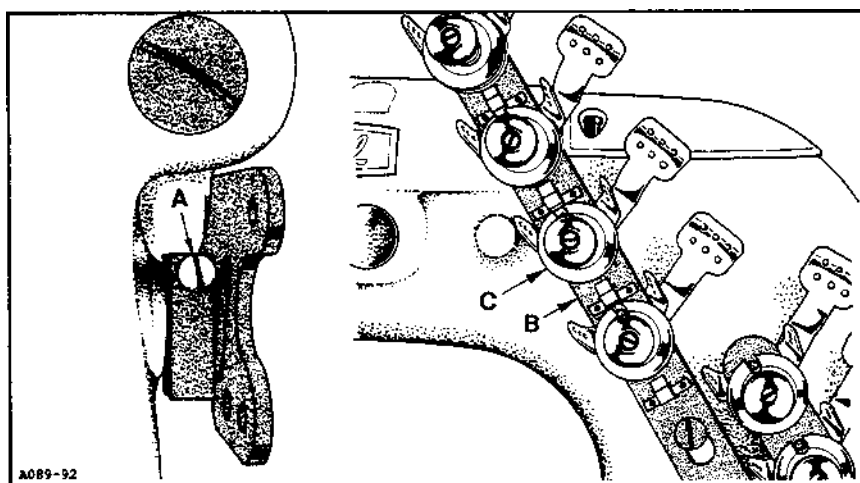

Fig. 14
Loosen screw (A, Fig.14) and adjust tension disc separator (B) up or down as required so all needle tension discs (C) will release at the proper time. Tighten screw (A)